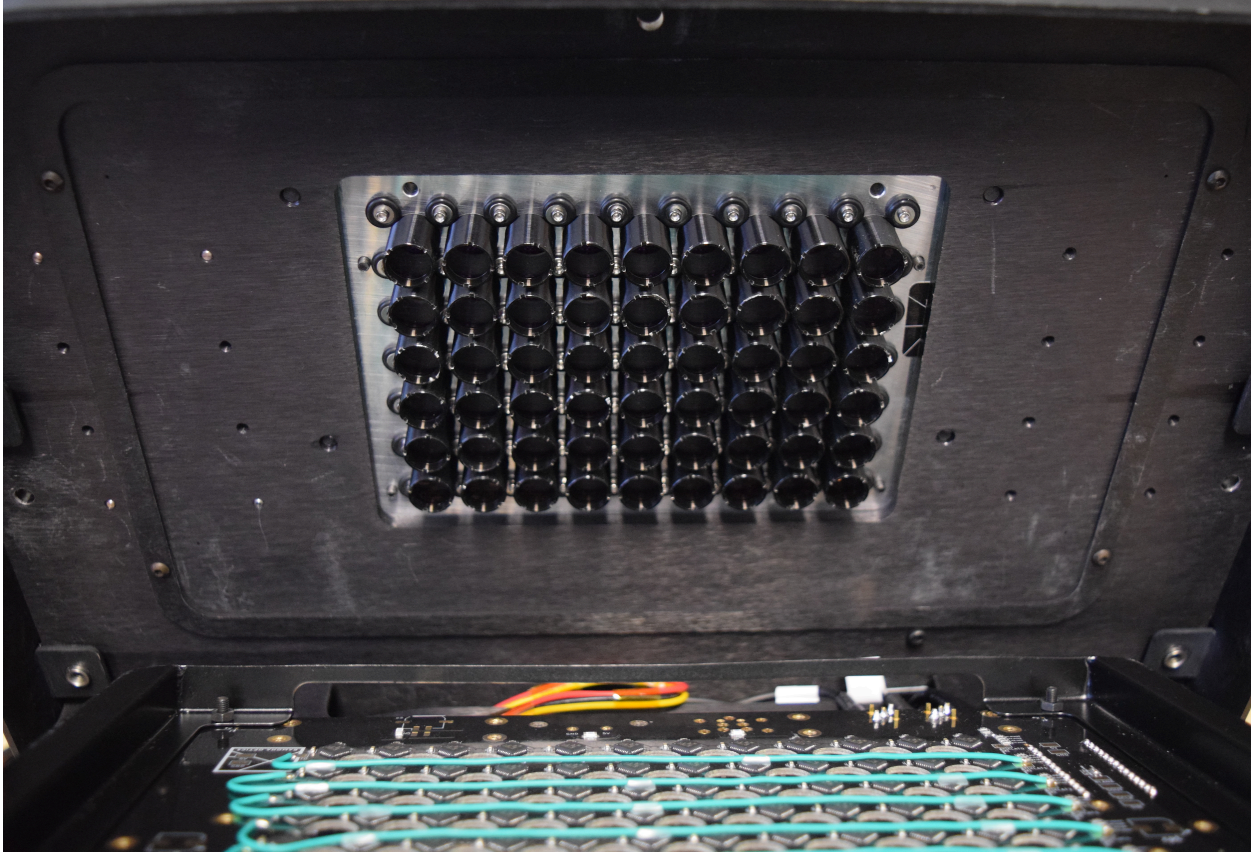

Figure 81: Upper surface of the MCAM showing the system optics and reflection board inset.
- 7) Mount the reflection illumination board to the MCAM™ by lining up the back edge of the board into the inset and gently pressing the board into the inset. The board will be held in place by magnets and should sit flush with the inset guide (Figure 81).